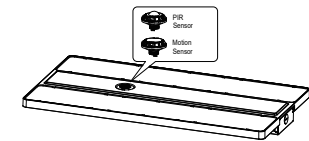

Figure 10
- Step2. Twist-lock the DC sensor to the base to make it work properly, use a remote control to adjust the working mode as per demand. (Figure 10)